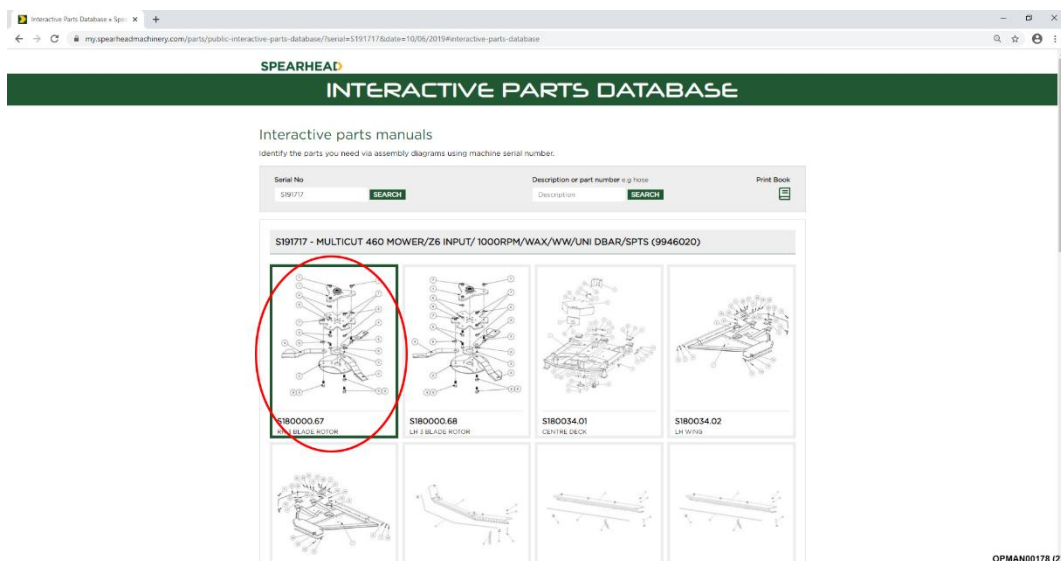

Figure 26 – Click On Assembly
7.1.1.3 After clicking on the serial number a full parts breakdown, specific to the machine serial number will appear showing the various parts and assemblies of the machine. Click on the specific assembly picture required; see Figure 26.